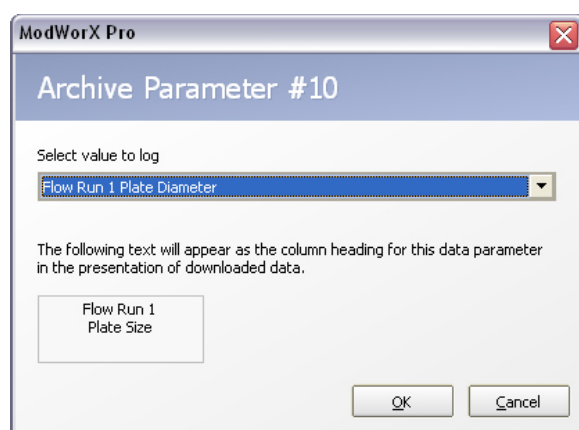

Figure 3.22
1. Click **Add Parameter**. An Archive Parameter dialog will appear (Figure 3.22, page 47).